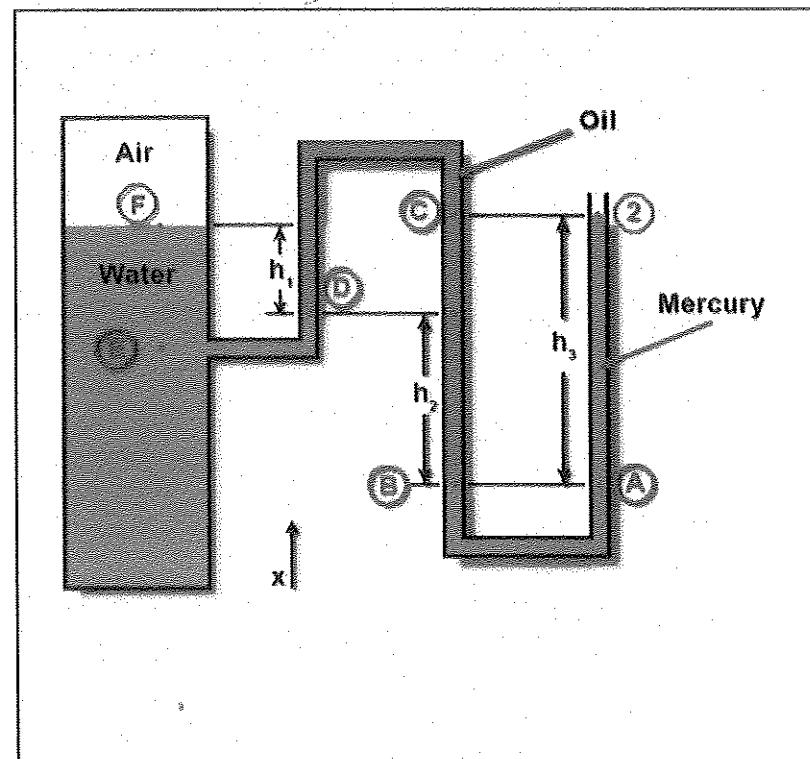

Figure 2 / Rajah 2
- CLO2 c) Figure 2 shows a pressurized vessel contains water with some air above it. A multi-fluid manometer system is used to determine the pressure at the air-water interface, point F. Calculate the gauge pressure at point F in kPa gauge. Given : $h_1 = 0.24\text{m}$, $h_2 = 0.35\text{m}$ and $h_3 = 0.52\text{m}$. Assume $\rho_{\text{water}} = 1000\text{kg/m}^3$, $\rho_{\text{oil}} = 790\text{kg/m}^3$ and $\rho_{\text{mercury}} = 13600\text{kg/m}^3$